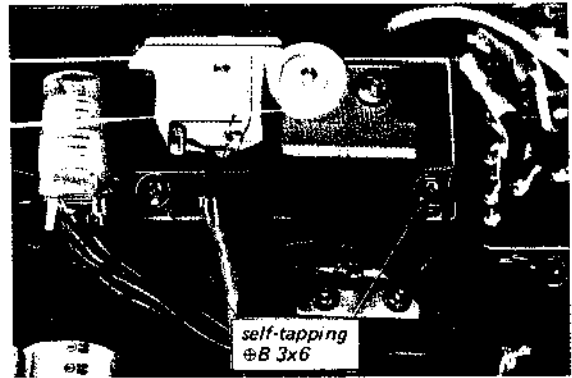

Fig. 2-15. Meter holder replacement
3. Remove the two self-tapping screws ( $\text{#B } 3 \times 6$ ) securing the meter holder to the chassis as shown in Fig. 2-15.